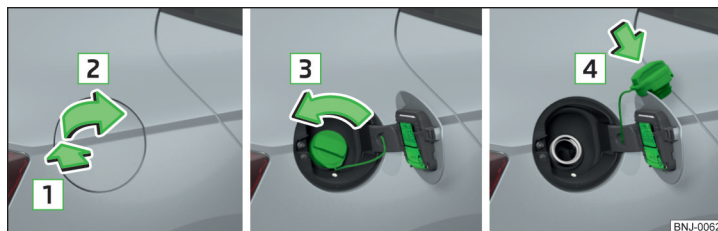

Fig. 143 Open fuel filler flap / unscrew tank cap / place the tank cap on the fuel filler flap
The correct fuel grades for your vehicle are specified on the inside of the fuel filler flap » Fig. 143 on page 148.
- Press on the fuel filler flap in the direction of the arrow accordingly » Fig. 143.